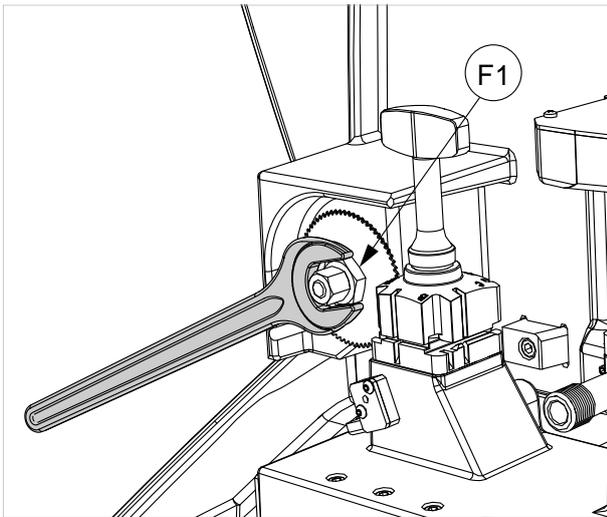

Fig. 41
- 3) Use a 19mm wrench (provided) to hold still the hex washer (F1) (Fig. 41).